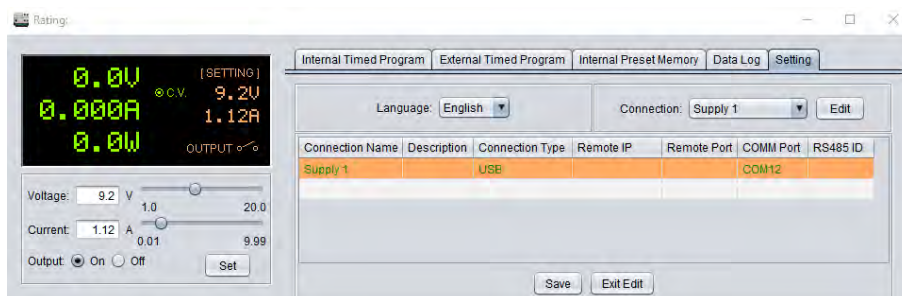

Figure 7.15
- Type in a connection name, select USB from the drop down, and select the correct COMM port assigned by your PC. Check the windows the device manager to determine the correct COMM port. In this case Windows has assigned COM port 12. Click “Save” and the black display will light up to indicate a successful connection. See Figure 7.15